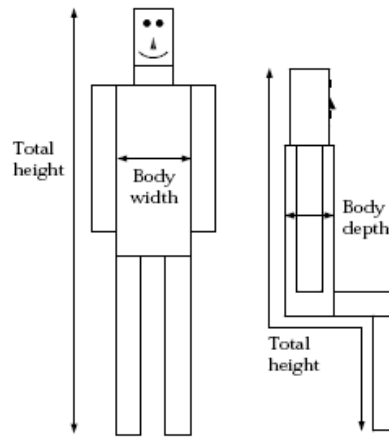

Figure 12.1.1: Proportions of a Person
- the total height of the person, as defined in Figure 12.1.1. Note that the total height of a seated person includes the length of the lap.
- the width of the person’s body, as defined in Figure 12.1.1
- the depth of the person’s body, as defined in Figure 12.1.1